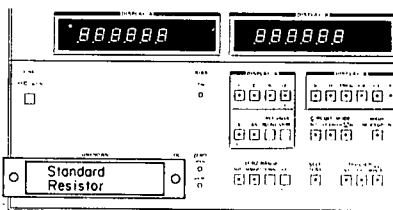

Figure 5-12. A1 Range Resistor and A4 Buffer AMP Tracking Adjustment.
- d. Connect 100kΩ resistor to 4274A UNKNOWN terminals as shown Figure 5-12 and adjust (100kΩ) A1R21 until display counts are within \*(10.0000μs±20) counts for Display A.